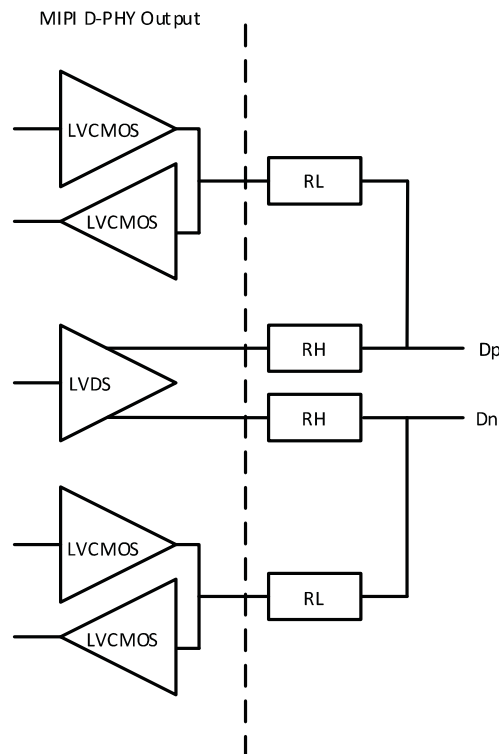

**Figure 3.4. MIPI D-PHY Input Using External Resistors**
MachXO3D devices can support MIPI D-PHY unidirectional High Speed (HS) and bidirectional Low Power (LP) inputs and outputs via emulation. In conjunction with external resistors, High Speed I/O use the LVDS25E buffer and Low Power I/O use the LVCMOS buffers. The scheme shown in Figure 3.4 is one possible solution for MIPI D-PHY Receiver implementation. The scheme shown in Figure 3.5 is one possible solution for MIPI D-PHY Transmitter implementation.